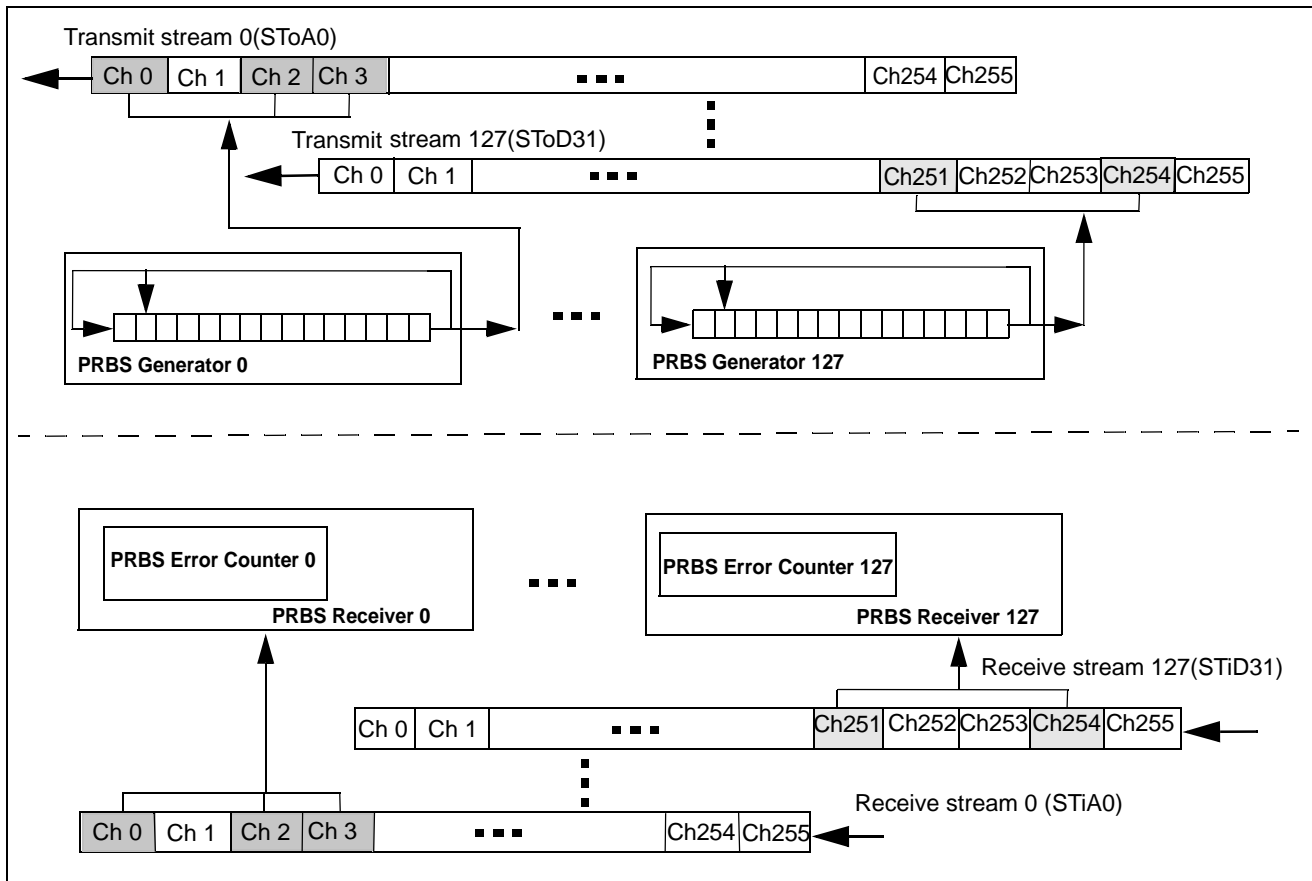

Figure 4 - ZL50073 BERT Implementation
Figure 4 illustrates the BER test as implemented in the ZL50073 TDM switch.
Based on the Figure 4 example for the stream SToA0 and STiA0, the ZL50073 programming sequence is as follows:
6. Before starting the BER test, the corresponding counter for the input stream should be cleared. The counter is cleared by writing 0 to it. For the example, in figure 4, for stream 0, 0 would be written to address 0x040000.